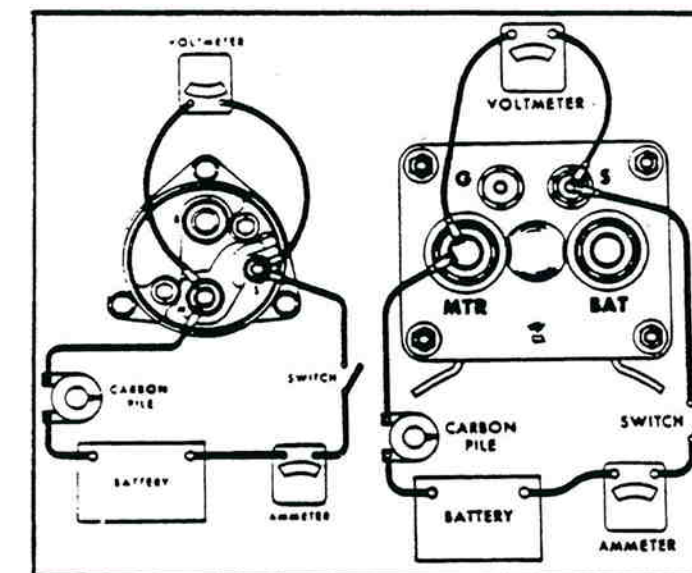

Figure 7-41. Testing Pull-In Winding On Solenoid.
17. To check the pull-in winding connect from the solenoid switch terminal to the solenoid motor terminal (figure 7-41). Compare with the pull-in winding specification. A high reading indicates a shorted pull-in winding, and a low reading indicates excessive resistance.
20. To check for grounds, move battery lead from "M" terminal (figure 7-41) to a clean metal ground on the solenoid case (not shown). Ammeter should read zero. If not, hold-in or pull-in winding is grounded.